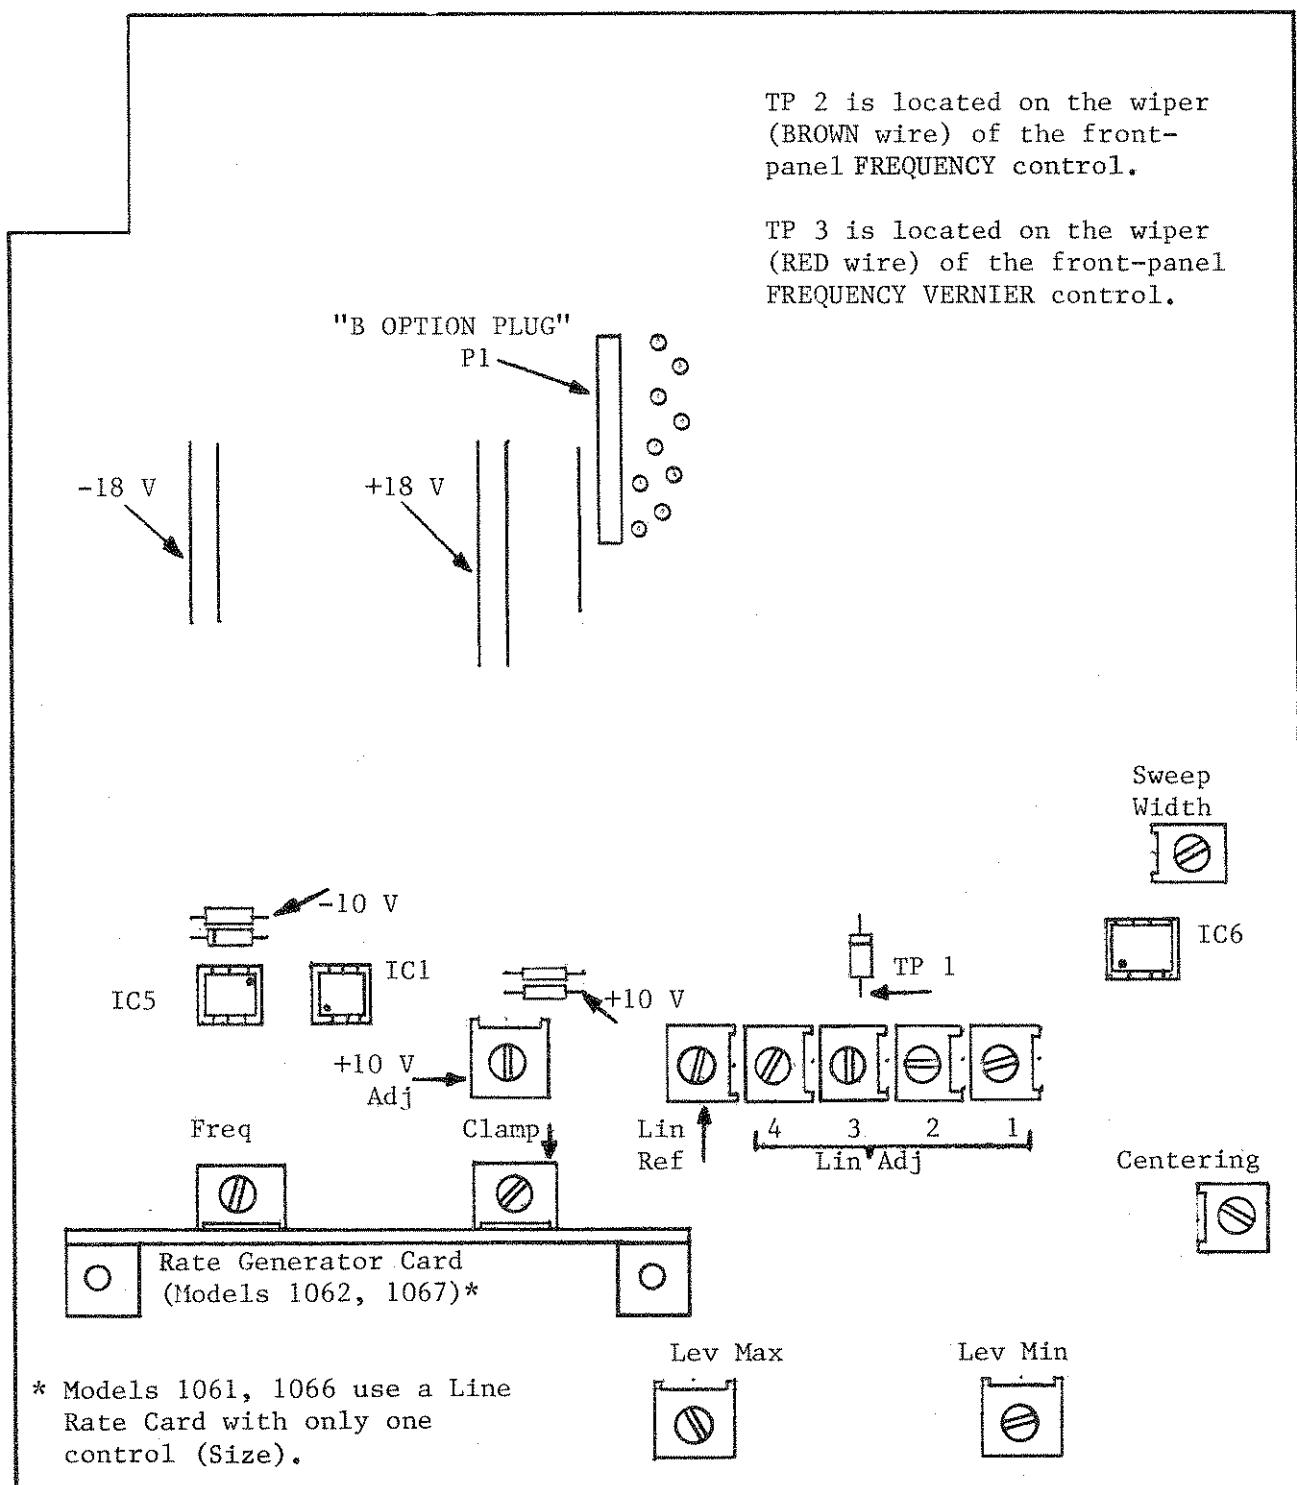

Figure 4-5. 1060 Series Control And Test Point Locations
*If calibration becomes necessary, remove the cabinet as instructed in Section 4.2.1. With the unit cover removed, all adjustments are accessible. Refer to Figure 4-5 for adjustments and test points.*
If the instrument does not meet specifications according to above checks, the following calibration should be performed. Refer to Figure 4-5 for control and test point locations mentioned in the following procedure.